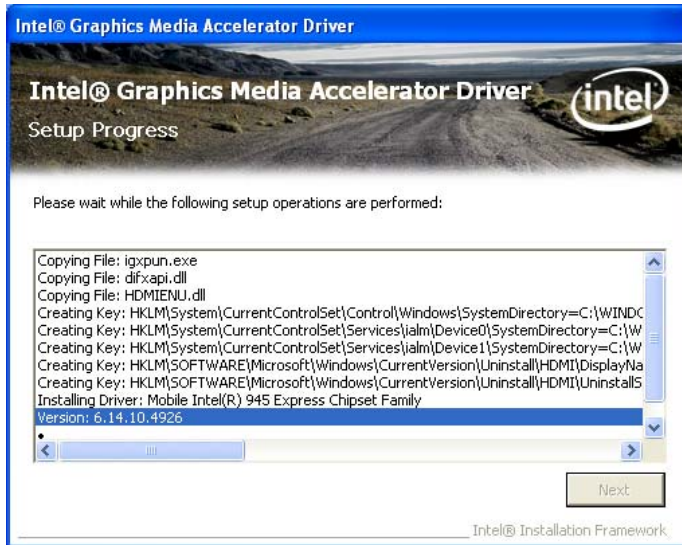

Figure 7-15: VGA Driver Setup Operations
Step 13: **Setup Operations** are performed as shown in **Figure 7-15**.